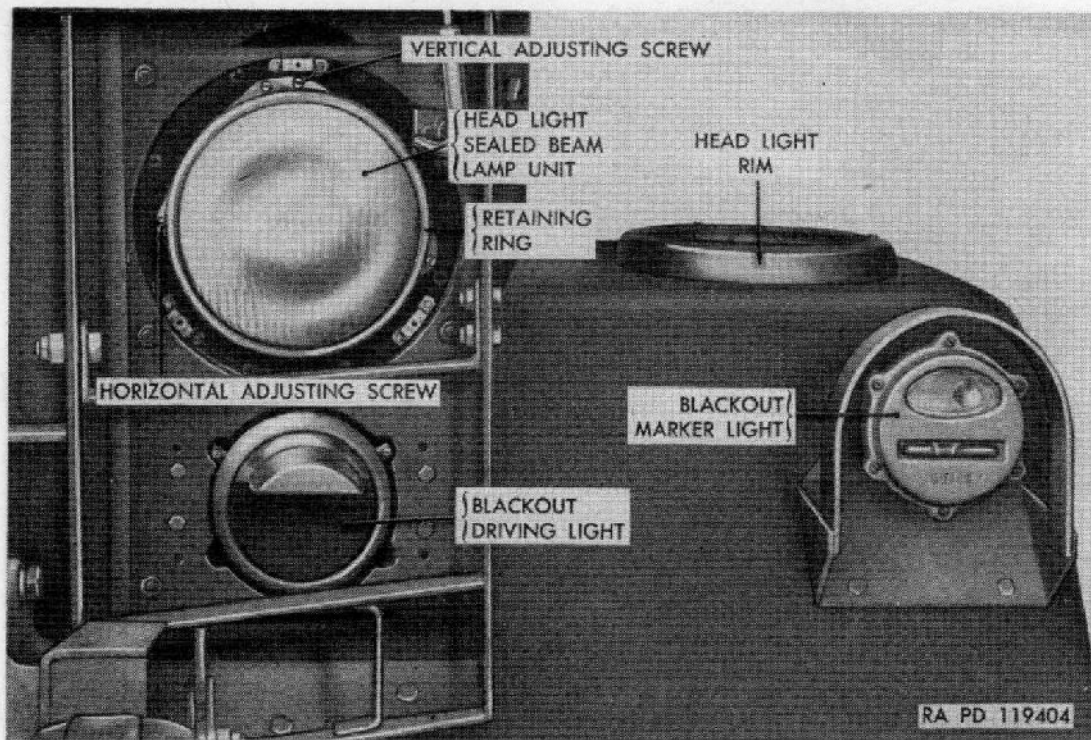

Figure 123. Headlight and blackout driving light.
- (2) *Head lights* (fig. 123). Service head lights and blackout driving lights are mounted in panels at each side of radiator. On trucks equipped with winch, head lights are at top of panel and blackout lights below. On trucks without winch, the mounting panels are reversed and blackout lights are at the top, head lights in lower portion of panels. Head lights are waterproof, double filament, sealed-beam type. Upper and lower light beams are selected by a foot-operated dimmer switch (fig. 14).
- (3) *Blackout driving lights* (fig. 123). Blackout driving light mounted below head light in panel on left side of radiator, is a waterproof, sealed-beam type. The blackout driving light is controlled by light switch (fig. 15) and furnishes a diffused, low-intensity light.
- (4) *Blackout marker lights* (fig. 123). Waterproof blackout marker lights are mounted on right- and left-front fenders and are controlled by light switch (fig. 15).
a. **ADJUSTMENT** (fig. 123). To reduce head light glare and prevent blinding of operators of oncoming vehicles, head lights must be adjusted as outlined below. The head light beam direction is changed by two lamp-unit focusing screws, one at top and one on the side.
(fig. 123)